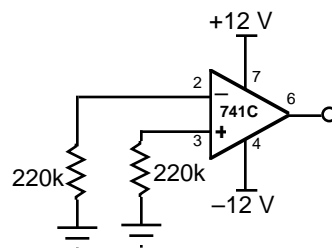

Fig 8.3
a) *Input offset and Bias Currents.* The 741C has a typical $I_{in(bias)}$ of 80 nA. Assuming that this is the current through each 220 k resistor in Fig. 8.3, calculate the dc voltages at both inputs. Now connect the circuit and measure the input voltages. Repeat this measurement for the FET input, LF411 op amp. Calculate $I_{in(off)}$ and $I_{in(bias)}$ in both cases and compare the two op amps.